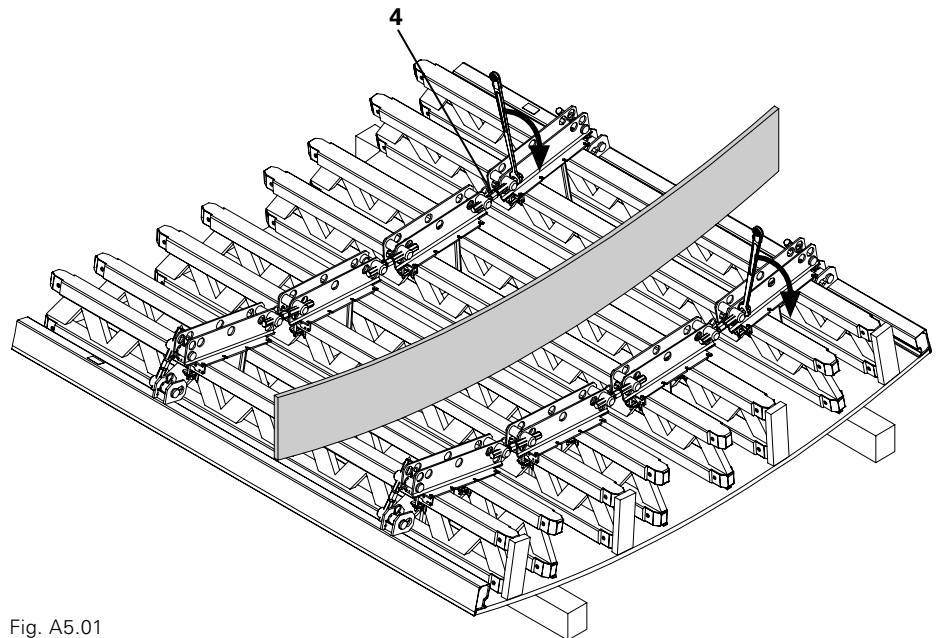

Fig. A5.01
1. Always begin with the Adjusting Spindles (4) in the middle of the panel; then adjust the Adjusting Spindle right and left. (Fig. A5.01)